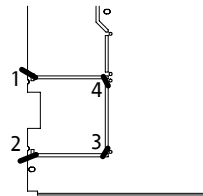

Figure 43. Breakaway Panel Links
3. Use a pair of pliers to bend the narrow links (1 and 2 in Figure 43) between the outer edge of the lower breakaway panel and the rear panel.
4. Use the pliers to bend the entire breakaway panel (at 3 and 4 in Figure 43) until it breaks away.